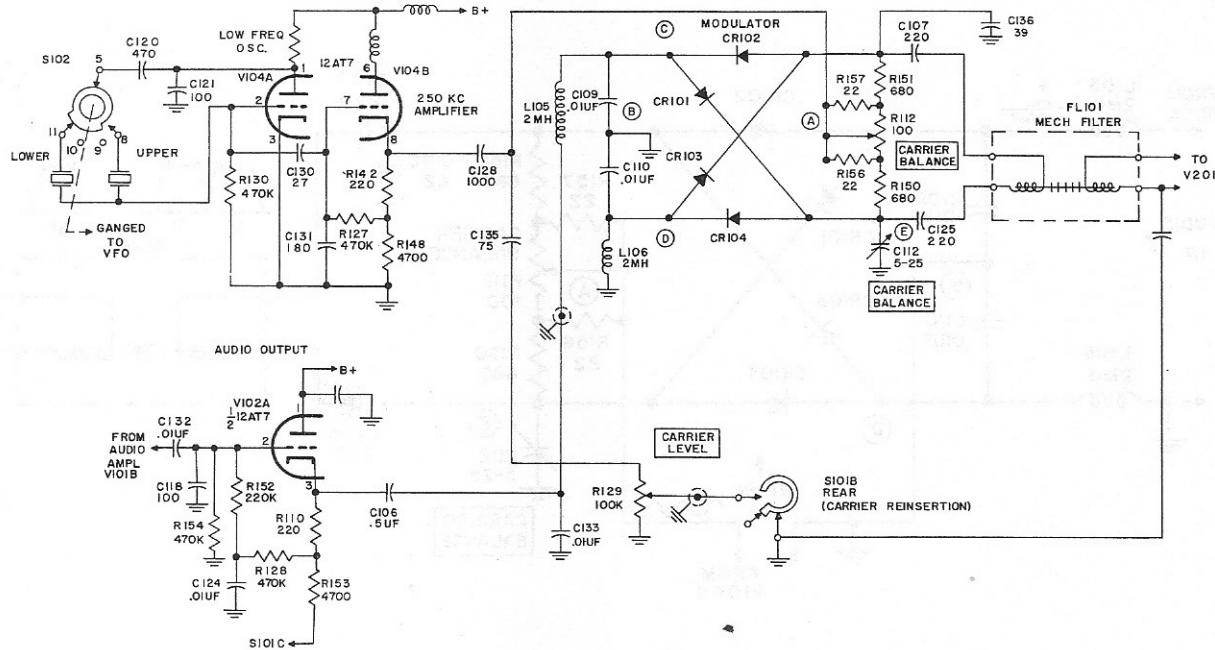

Figure 4-3. LFO, Balanced Modulator and FL101 Mechanical Filter, Simplified Schematic Diagram
4.2.1.2. LFO, BALANCED MODULATOR AND FL101 MECHANICAL FILTER CIRCUITS. Development of the 250-kc carrier frequency in the KWS-1 Transmitting System is accomplished by a crystal controlled oscillator stage, V104. Figure 4-3 is a simplified schematic diagram to show only oscillator V104, the balanced modulator, FL101 Mechanical Filter, and the audio output cathode follower stage. This diagram may be used to study the KWS-1 methods of carrier development, modulation and filtering relative to single sideband transmission.
(4) SIDEBAND SELECTION. The operator has the choice of transmitting on either the upper or lower sideband. The selection is accomplished by switch S102 (see figure 4-3). The KWS-1 normally operates on the lower sideband, however, if S102 is switched to the U, or upper, position, the action selects the "UPPER" sideband crystal for the V104 250-kc oscillator, to change the output frequency of V104 by 3 kc. This is the same bandwidth as the FL101 Mechanical Filter output. In order to maintain the proper frequency relationships between the vfo and the 250 kc lfo, S102 is mechanically ganged to the vfo can. Adjustment of S102 to either sideband automatically adjusts the vfo output 3 kc in the opposite direction from the lfo adjustment. Thus if the lfo is adjusted down, the vfo is adjusted up 3 kc in their respective frequency ranges, to maintain proper output frequency in the overall KWS-1 Transmitter.
For both cw and AM, a portion of the 250-kc carrier must be reinserted into the r-f circuits. This is accomplished by taking a part of the carrier frequency off the V104B cathode through condensers C128 and C135. (See figure 4-3.) This is fed through the CARRIER LEVEL control potentiometer R129, by which the operator may adjust the desired amount of reinserted carrier. The signal is then fed through switch S101B and C117 to the output side of Mechanical Filter FL101, through the filter output transducer coil to the V201 first mixer control grid.